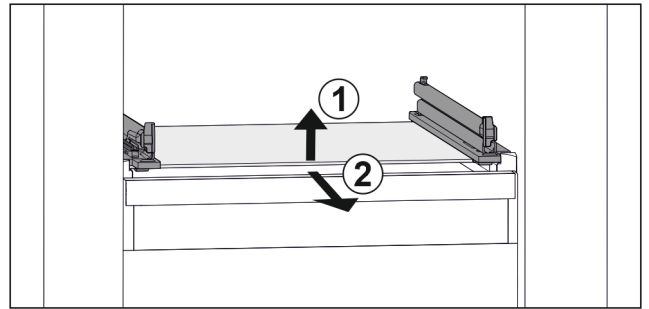

Fig. 137 Example illustration of glass shelf
- ▶ Lift glass shelf at the front. Fig. 137 (1)
- ▶ Remove glass shelf to the front. Fig. 137 (2)